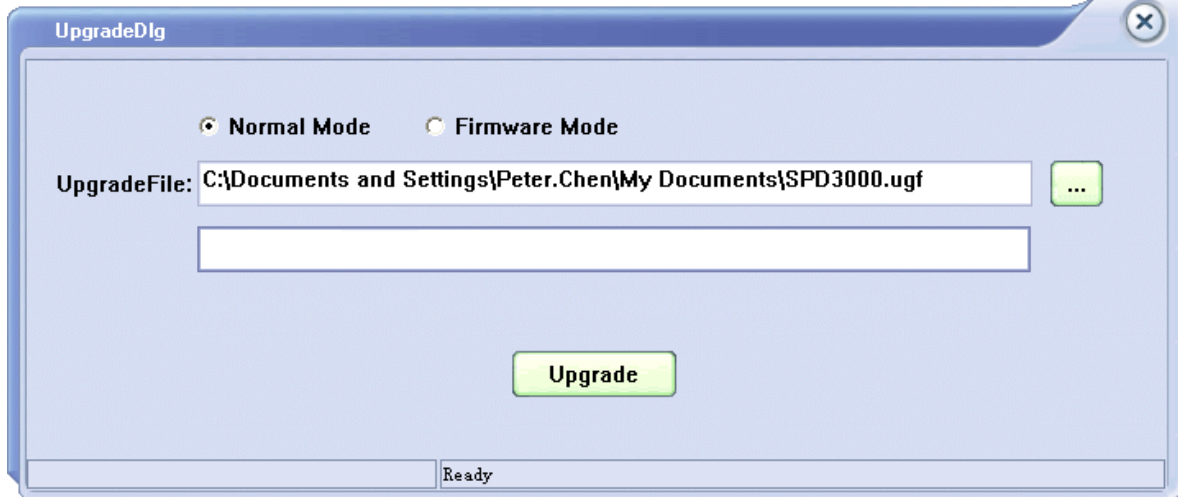

Figure 4
4. As it shows in figure 4, click Upgrade button to start upgrading. The upgrade is finished when the progress bar completes and the instrument will run the version after upgrade.